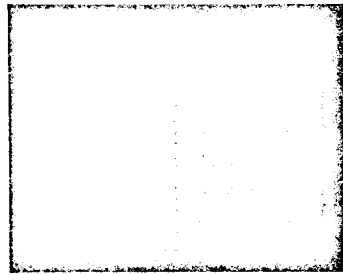

Figure 26. CRT Trace With Front-Panel **VERT POSN** Control Correctly Adjusted
- j. On the 8750A, press **B** then **INPUT**. Press **STORE INPUT**. When **STORE INPUT** indicator (LED) turns off, press **INPUT-MEM**. The CRT trace should appear as shown in Figure 26. Adjust the 8750A **VERT POSN** control to place the CRT trace on the center graticule line. Next, set the 8750A **VERT GAIN** control fully counterclockwise.